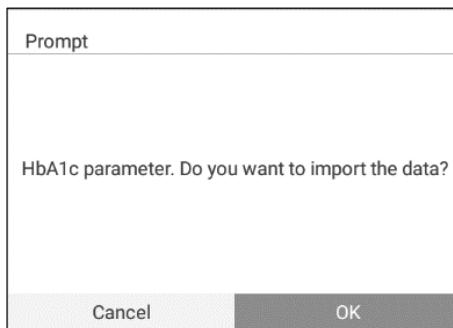

Fig. 5-13 SD Calibration
- Place the SD card on the SD card recognition zone. A prompt will be displayed on the screen (Fig. 5-13).